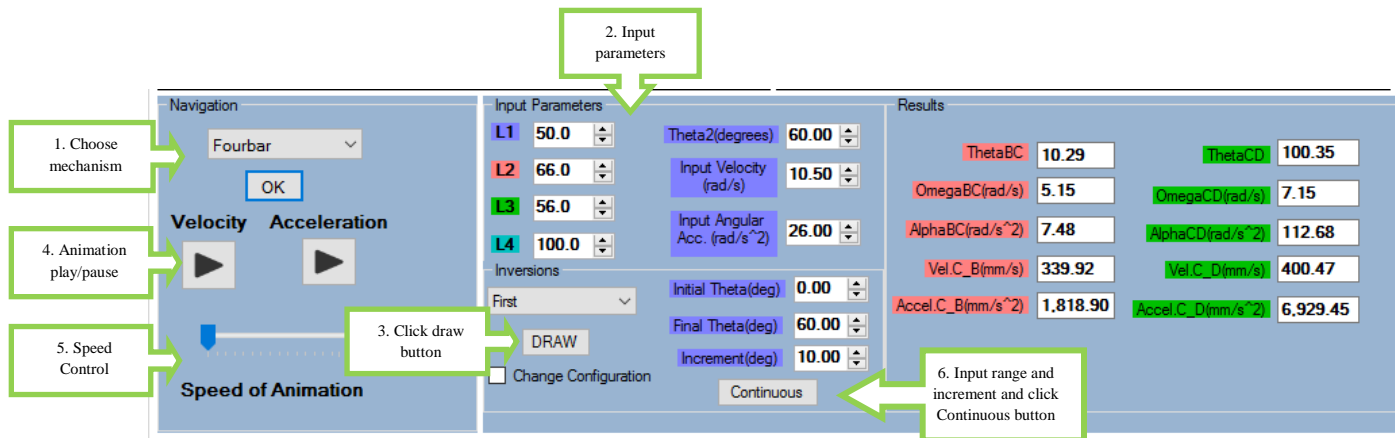

Figure 10: Guidelines for VAD Module Control
- Select the desired mechanism from dropdown menu in **Navigation** panel, and input parameters can be changed in **Input Parameter** panel (refer Figure 10).
- For playing animation for velocity or acceleration vector diagram click on the corresponding buttons in **Navigation** panel (refer Figure 10).